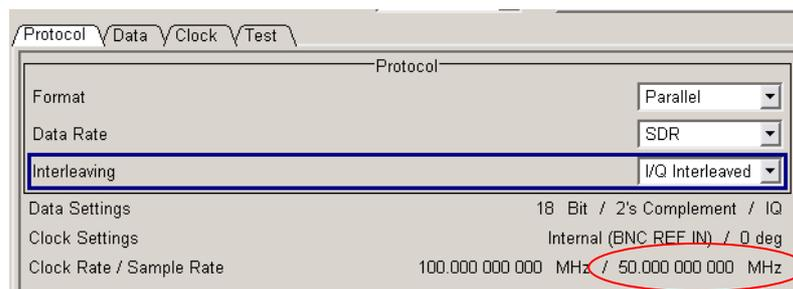

Figure 16: Indication of calculated Sample Rate
DigIConf uses this entry to derive a *Sample Rate* for the data transfer between the R&S EX-IQ-Box and the R&S measurement instrument. This *Sample Rate* is indicated in the *Protocol* tab (see Figure 16).
- *Interleaving* cuts the sample rate in half (see Figure 16).